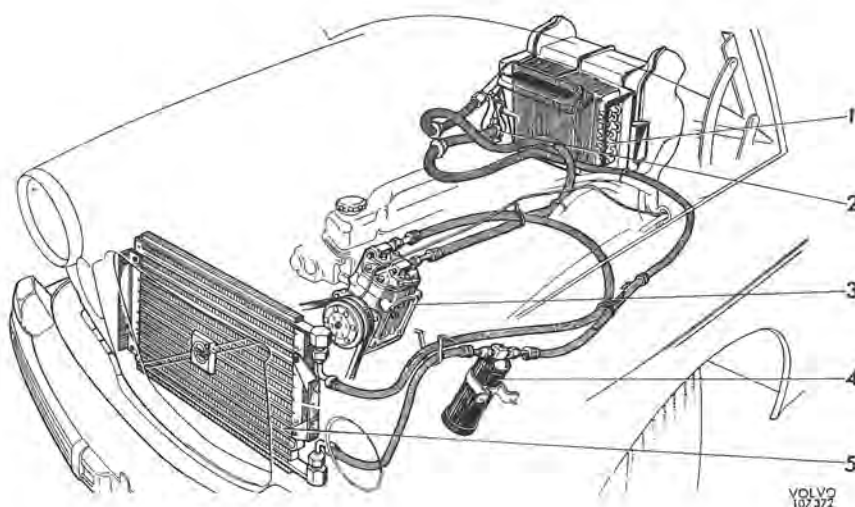

Fig. 8-37. Cooling system
The cooling system in the unit is of the compressor type, which means that the circulation of the refrigerant is carried out by a compressor. The system is divided up into the main components: evaporator (1, Fig. 8-37), thermostatic expansion valve (2) compressor (3), dryer (4), and condenser (5). The evaporator and expansion valve are placed in front of the heater system cell assembly inside the passenger compartment and the other components in the engine compartment.